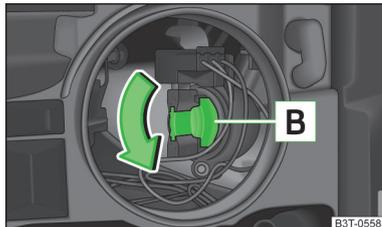

Fig. 204
- › Turn the bulb holder **A** » Fig. 204 in the direction of the arrow as far as the stop.